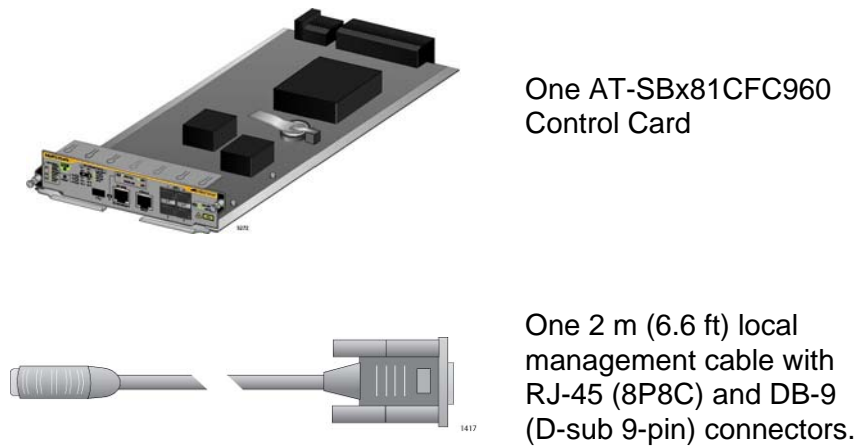

Figure 61. Items Included with the AT-SBx81CFC960 Controller Card
2. Remove the new AT-SBx81CFC960 Controller Fabric Card from the shipping package and verify the package contents, listed in Figure 61 on page 129.